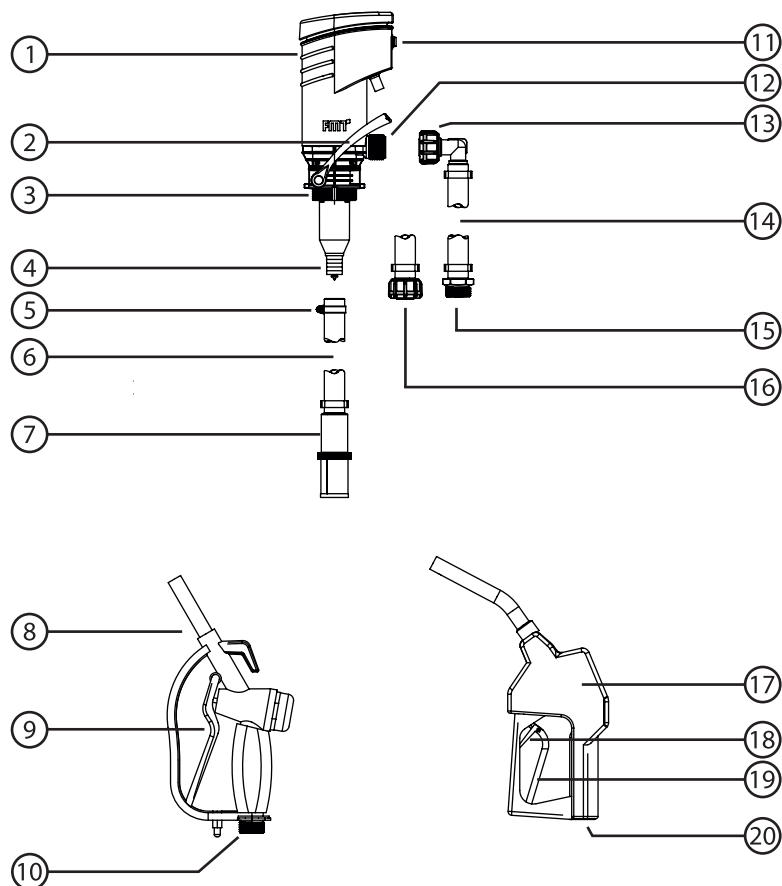

Fig. 6-1 Overview of PREMAxx urea axial gear pump with accessories
#### Preparing the pump for operation (see fig. 6-1):
- Push the lever (10 or 19) or fix it by the lock (18) (if equipped with automatic nozzle valve). Hold the nozzle valve into the container to be filled.
- Manually pump fluid by means of the hand lever (item 2, refer to fig. 6-1) until fluid is pumped out of the nozzle valve (9 or 17).